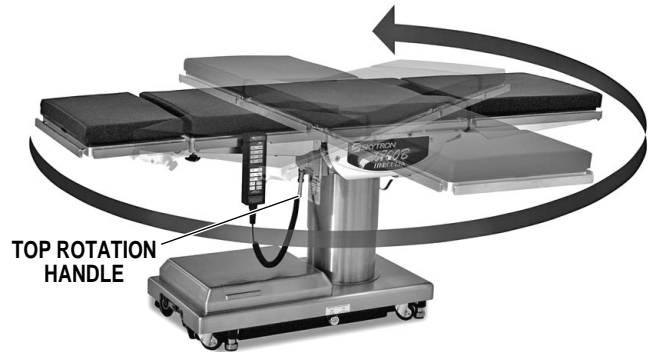

Figure 2-21. Top Rotation
a. The table top can be horizontally rotated 210° without having to rotate the entire table. Refer to figure 2-21. To rotate the top, turn the TOP ROTATION LOCK HANDLE counterclockwise to release, grasp the table by the head end and rotate the top counterclockwise. Lock the top in position by tightening the TOP ROTATION LOCK HANDLE clockwise.